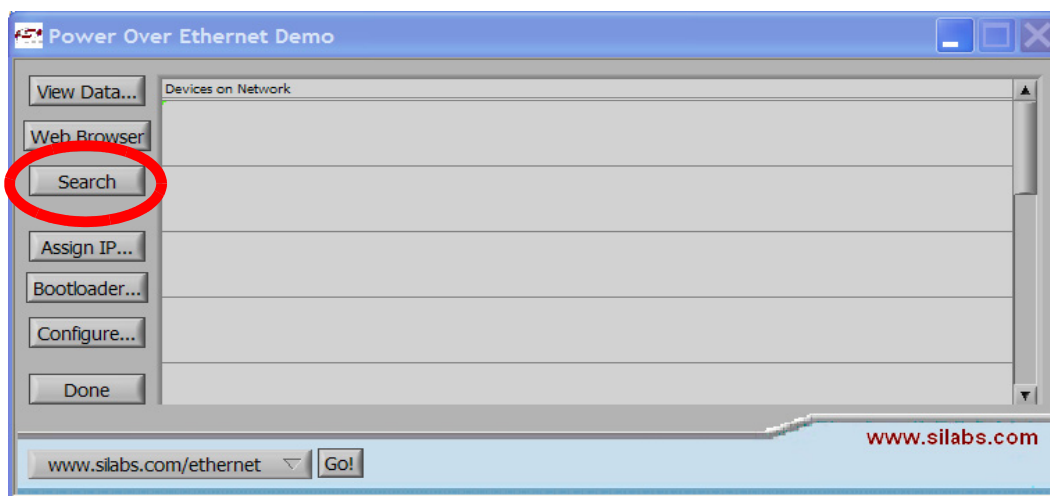

Figure 3. Search Button
1. Start the "Power Over Ethernet Demo" application and press the **Search** button as shown in Figure 3.